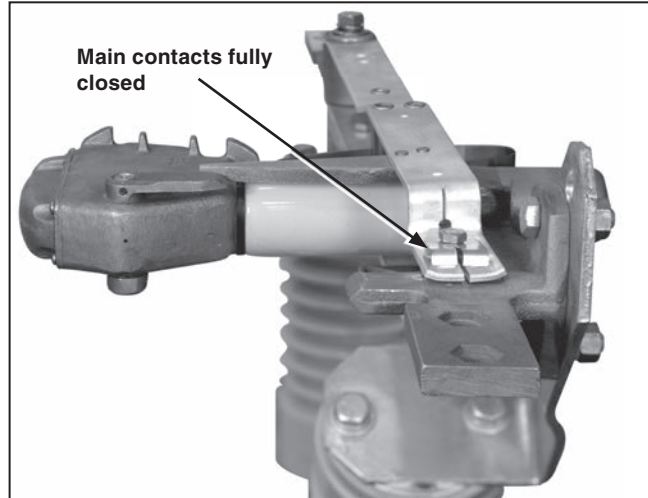

Figure 36. Checking that the blade is fully closed.
- (a) With the operating handle as far as it will go in the closing direction, all main contacts of the interrupter switch are in the fully **Closed** position. See Figure 36.